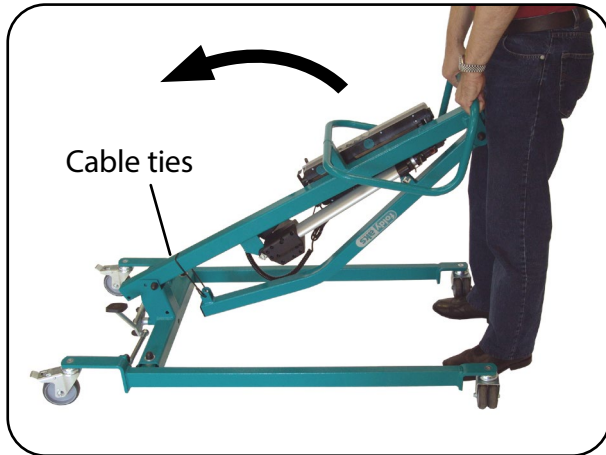
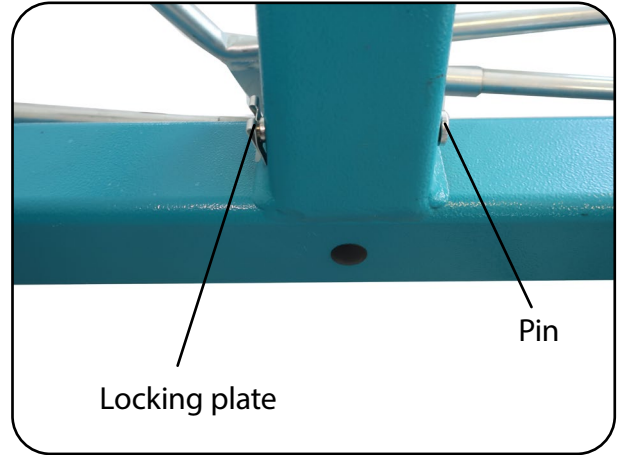

Fig. 6.2.03 – Setting up the stand mast
Fig. 6.2.04 – Stand mast holder
5. Set the stand mast upright (Fig. 6.2.03) and fully align the hole on the stand mast with the lower hole on the stand mast holder. Then secure the stand mast again using the bolt and the locking plate (Fig. 6.2.04).
6. Remove the cable tie that holds the lifting arm in place on the stand mast as a transport lock (Fig. 6.2.03).